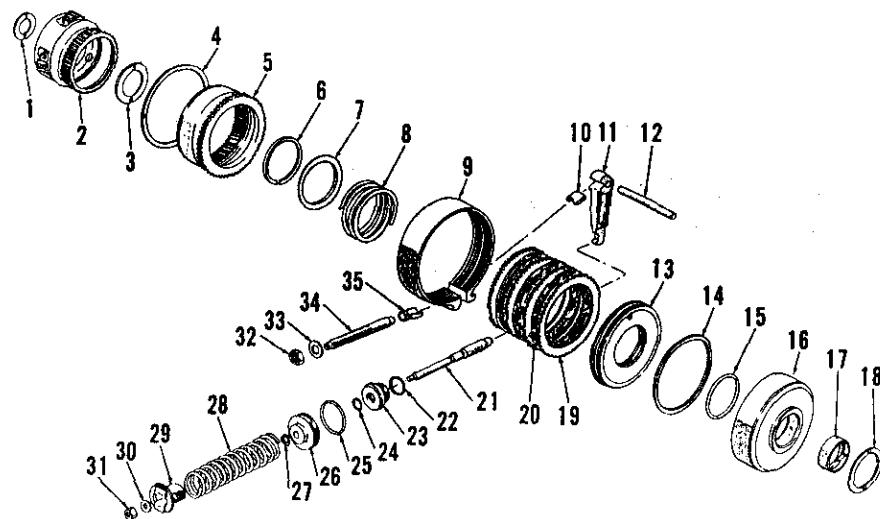

Fig. 295—Exploded view of Clutch 1, "B" carrier and Servo 2 assemblies as installed in model 2000, 3000 and 4000 transmissions.
Place "B" carrier on work bench, pinion side down, and stick thrust washer (3—Fig. 295) in counterbore of carrier with light film of grease. Place the assembled Clutch 1 and "B" ring gear unit, ring gear side down, over the "B" carrier. While partially supporting the clutch assembly, rotate the clutch assembly back and forth to align notches in clutch discs with splines on "B" carrier and to align teeth of "B" ring gear with pinion gear teeth on "B" carrier. Be sure that thrust washer (1) is in place in hub of "B" sun gear in transmission. Then, holding Clutch 1 and "B" carrier together, install them on "B" sun gear.